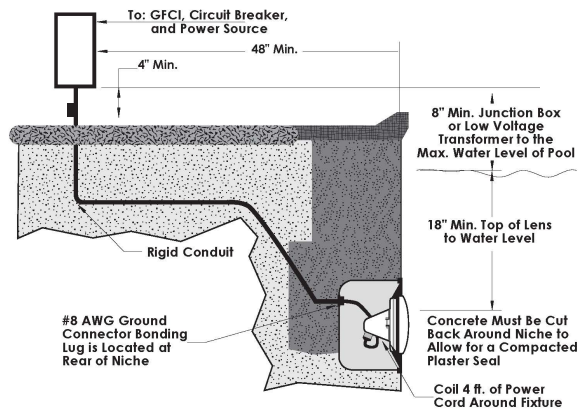

Figure 1.
- A junction box or low voltage transformer is located at least 8 inches above the maximum pool water level and at least 48 inches from the pool edge; reference Figure 1.
- Proper wet niche installation with the top edge of the underwater light's lens at least 18 inches below the surface of the water in the pool and not more than 20" in Canada; reference Figure 1.
- Proper electrical wet niche bonding and grounding using the #8 AWG ground connector at the rear of the niche; reference Figure 1.
- The wet niche is properly electrically bonded and grounded via the No. 8 AWG ground connector located at the rear of the niche; see Figure 1.
2. Remove the existing light per the original manufacturer's instructions. Place the light fixture on the deck. 3. Leaving the light fixture on the deck, cut the light cord. Be sure to leave at least six (6) inches of cord in order to connect it to the replacement light cord. Discard the light fixture.
4. Remove the existing cord by pulling it up out of the niche and onto the deck. Carefully strip the outer cord jacket to expose six (6) inches of the underlying three insulated wires.
7. Carefully strip the outer cord jacket from the new light cord to expose six (6) inches of the underlying three insulated wires.
8. Connect these three (3) wires to their corresponding junction box circuit wires and secure the junction box cover in place.
9. Be sure to leave at least four (4) feet of cord at base of the fixture to coil around the light to ensure ease of servicing; reference Figure 1.
11. Using the stainless steel pilot screw provided, install the Purewhite® Incandescent light fixture assembly into the niche, carefully tightening the pilot screw. (Reference Figure 1)